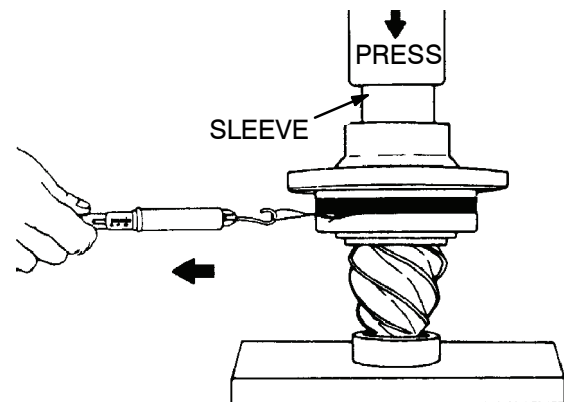

Figure 117.
- (1) Press Method:
- (b) Install a sleeve of the correct size against the inner race of the outer bearing. Figure 117.
- (f) Pull the cord with scale on a horizontal line. As the bearing cage rotates, read the value indicated on scale. Make a note of reading. Figure 117.